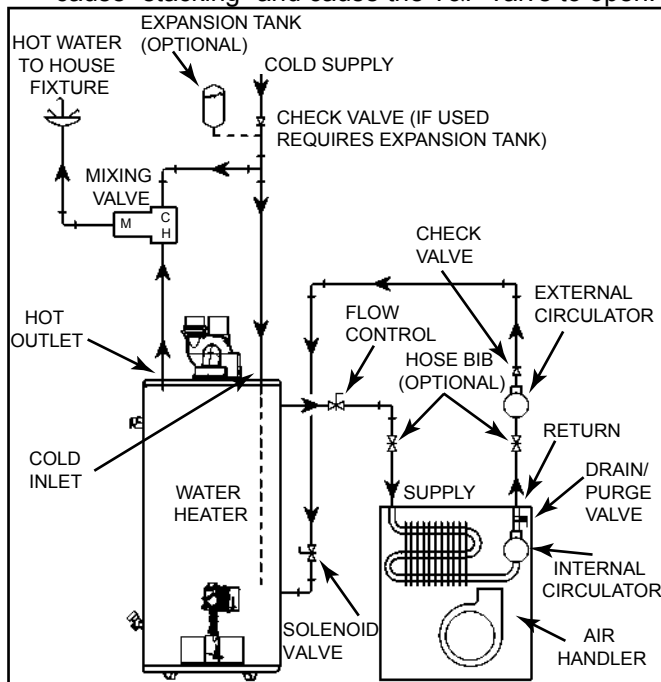
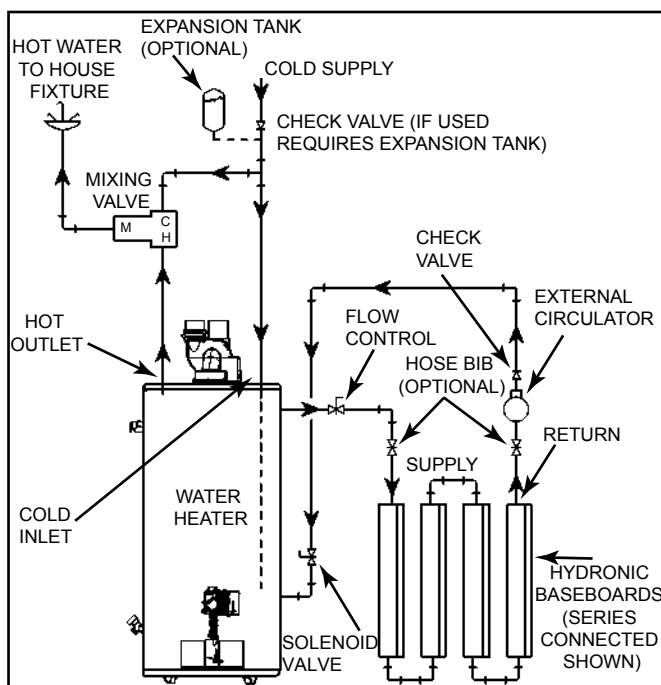

Figure 17
Figure 18
8. “Combo” Heating Systems require higher water temperatures than other applications. When the system is used to supply water for Combo Heating applications, a means, such as mixing valve, must be installed to temper the water in order to reduce scald hazard potential (see Figure 17 & Figure 18).
- A. A fan coil/air handler (Figure 17).
- B. A hydronic baseboard (finned tube) loop/In floor heating (Figure 18).